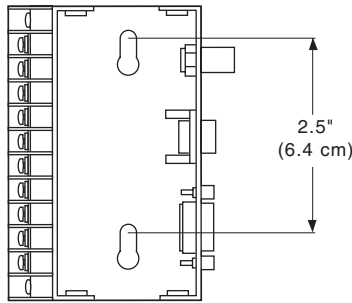

Figure 2. KDB4000V Interface Mounting Hole Dimensions
5. Attach the KBD4000V Interface to the wall with the screws that are provided (refer to Figure 2). The interface must be within 6 feet (1.8 m) of the keyboard and the nearest suitable electrical outlet. The interface cover can be removed for ease of mounting. Replace the cover when the mounting is complete.